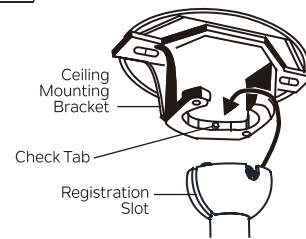

Fig. 9
Step 10. Lift the motor assembly into position and place the hanger ball into the ceiling mounting bracket socket. Rotate the entire assembly until the “Check Tab” has dropped into the “Registration Slot” and seats firmly. (Fig. 9)